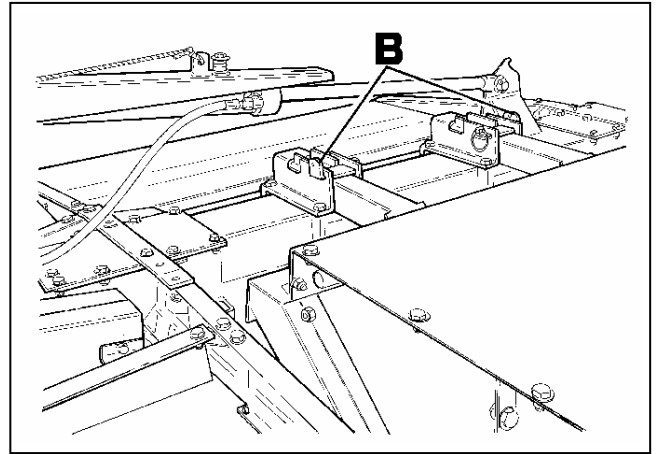

Fig. 19
**FIG. 19** The conditioner can be dismantled by loosening the 2 dowels **B**. Then the conditioner is drawn backwards and the PTO-shaft is dismantled from the gearbox.